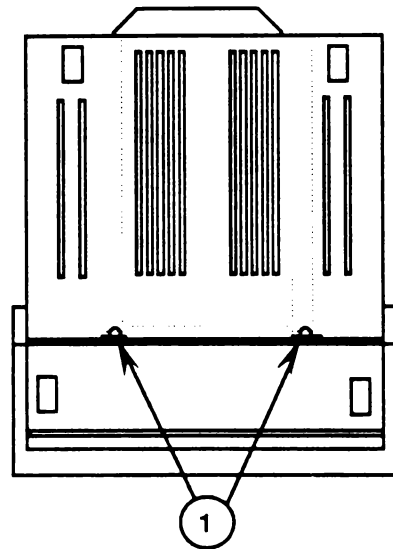

FIGURE 7
5. Replace the two screws (Figure 7, #1) at the bottom of the monitor.